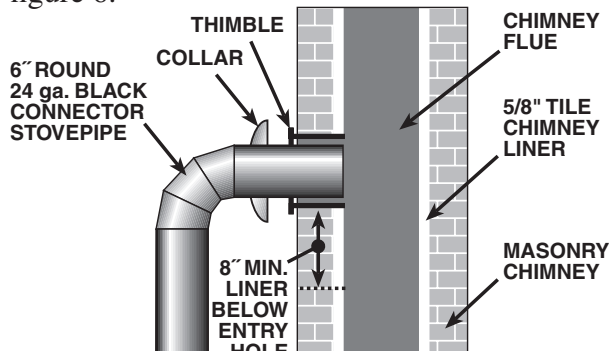

Fig. 6 - Masonry Chimney Connection
Chimney must be a code-approved, masonry chimney with flue liner. Before using an existing masonry chimney, clean the chimney, inspect the flue liner and make any repairs needed to be sure it is safe to use. Make repairs before attaching the stove. The connector stove pipe and fittings you will need to connect directly to a masonry chimney are shown in figure 6.
2. Install a fire clay (5/8” minimum thickness) thimble. Make sure the thimble is flush with the inner surface of the chimney liner and does not protrude into the flue (see figure 6).